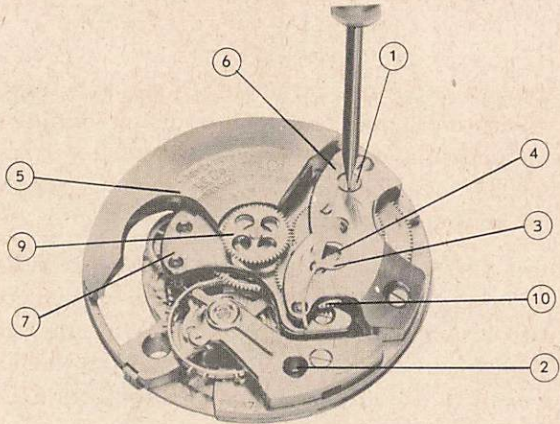
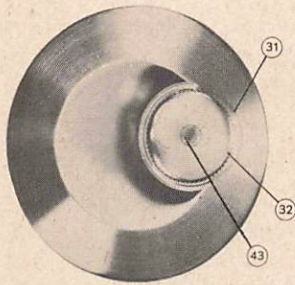
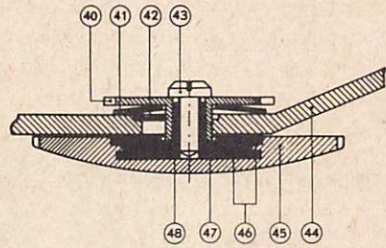

Fig. 1
Fig. 4
Fig. 5
- a) Insert screw driver into the "Winding Pinion Screw" (No. 1—Fig. 1) indicated by an arrow on the *Barrel Bridge*.
- b) Release the *Click* visible through the aperture (2) in the heel of the *Balance Cock*, and with the screw driver held firmly on the *Winding Pinion Screw* (No. 1—Fig. 1), allow mainspring to slowly unwind.
- c) Then wind the Mainspring 4 turns at *most* by means of Screw 1 (Fig. 1).
- a) Place *Hand-Setting Crown* 45 (Fig. 5) in pulled-out position. (31—Fig. 4).
- b) Check if *Balance Stop Spring* 3 (Fig. 1) is well-adjusted so that the head of the *Hand-Setting Crown Screw* 43 (Fig. 5) falls into place at the entry 4 of *Lever* 3 (Fig. 1).
- d) Train wheels, bridge 7 (Fig. 1) and screw.
- o) Place oscillating weight in position (5 in Fig. 1 + 18 in Fig. 3) (special screws).